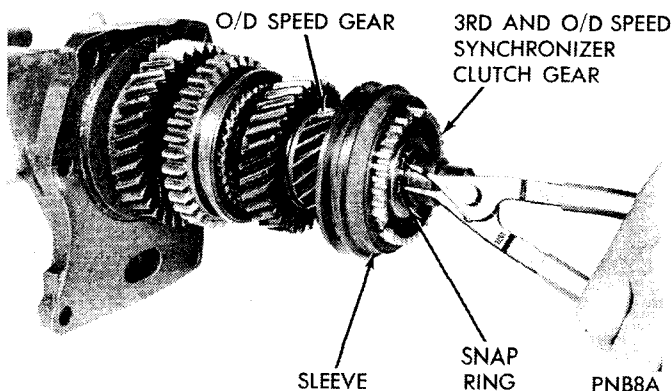

Fig. 16—Disassembling Mainshaft
(12) Remove snap ring (Fig. 16), that retains 3rd and O/D synchronizer clutch gear and sleeve assembly to the mainshaft then slide 3rd and O/D synchronizer assembly off end of mainshaft.
(13) Slide O/D gear and stop ring off mainshaft. (Do not separate 3rd and O/D speed synchronizer clutch gear, sleeve, shift struts, or springs unless in-
(7) Slide overdrive gear over mainshaft (with synchronizer cone toward front) followed by O/D gear stop ring (Fig. 16).
(8) Install 3rd-O/D synchronizer clutch gear assembly (including sleeve, shift struts and springs) on mainshaft (shift fork slot toward rear) against O/D gear (Fig. 16). Be sure to index rear stop ring with clutch gear struts.
(9) Install retaining snap ring (Fig. 16). Then, using grease, position front stop ring over clutch gear, again indexing ring lugs with struts.
(10) Coat a new extension gasket with grease, then place it in position on the extension.
(11) To provide clearance so that assembly will be possible, slide reverse idler gear to center of its shaft and move the 3rd O/D synchronizer sleeve as far forward as practical (do not lose struts).